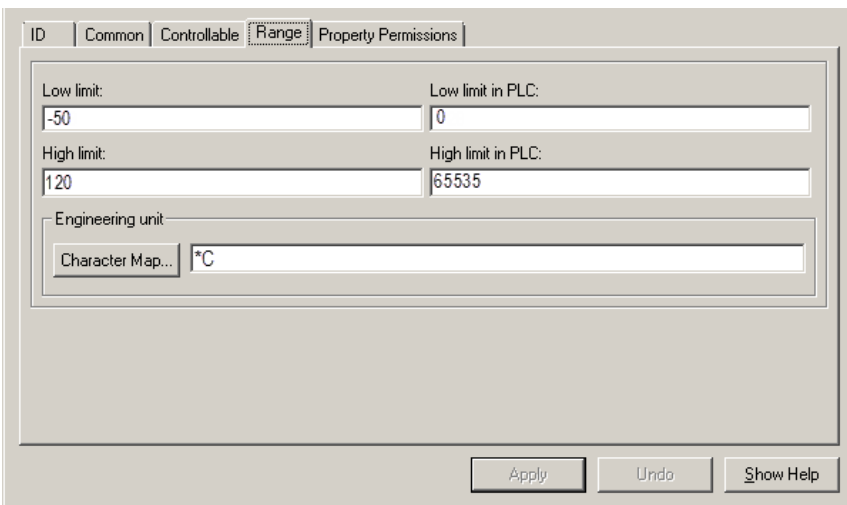

*Figure 29. Selected Signal Type*
2. Select a PLC branch object, and then a signal type. In this example, *TemperatureType* is selected as shown in Figure 29.